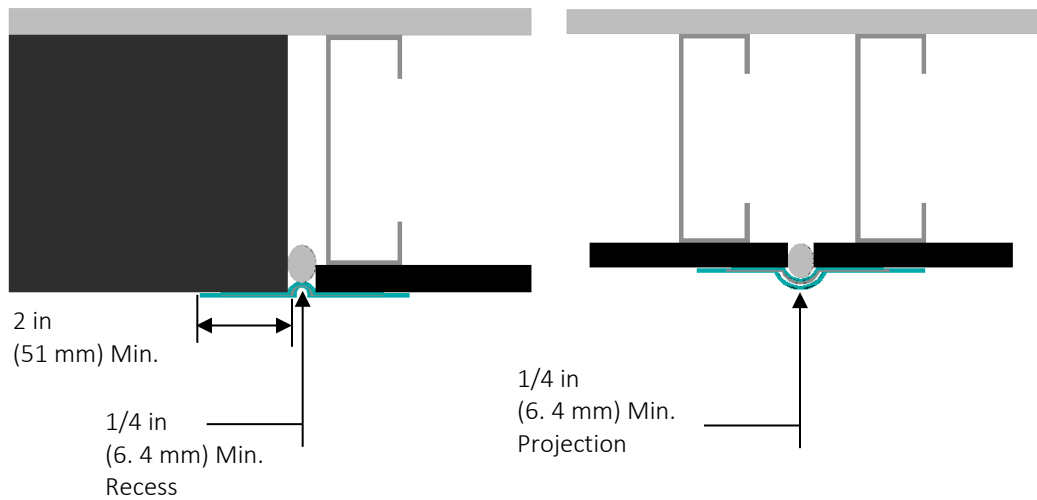

Fig. 14
1. The width of the AquaFlash Mesh must overlap each side of the joint a minimum of 2 in (51 mm) - Figure 14.
- a. The width of the AquaFlash Mesh must overlap each side of the joint a minimum of 2 in (51 mm) - Figure 14.